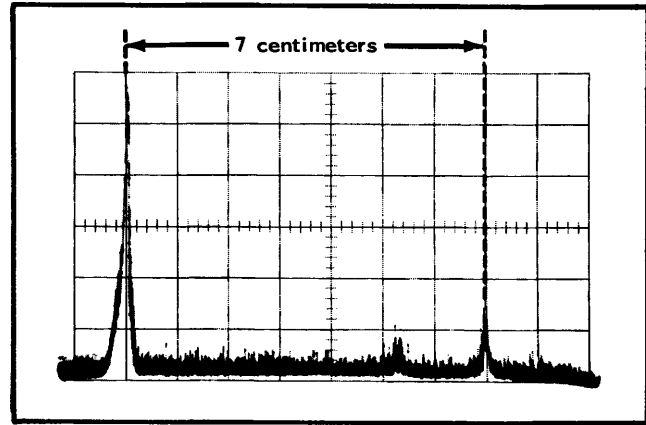

Fig. 2-7. Frequency difference measurement between two signals.
3. Measure the distance in graticule divisions between the two signals (see Fig. 2-7).
4. Multiply the distance measured in step 3 by the DISPERSION/CM setting to determine the frequency separation. For the example of Fig. 2-7,